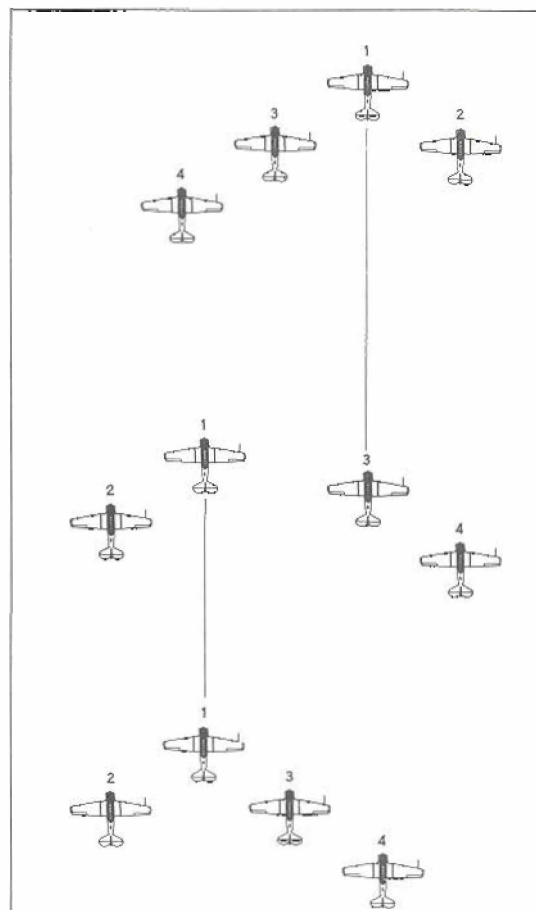

Figure 14: Changing the Section Leader
(1) In operational formation flying, the leader of a four-plane formation is always one of the element leaders. At FTS, however, to give everyone a chance to lead without having to break off the exercise, it is permissible for the wingmen to take turns. At the pre-flight briefing for an exercise in leader changing, each member must understand the procedure thoroughly, and must be fully aware of the system of renumbering.
(2) **SECTION LEADER CHANGE -** With the section in Finger formation, Number One indicates to Number Three that he should take the lead. Number Three, with Number Four forming on him, opens his throttle and moves slightly out and ahead of the first element, keeping his eyes on Number One until it is obvious that Number One is in position. An immediate power reduction is made to 1,750 rpm and 24" MP to allow the other members to close-up into Finger formation on the opposite side, as shown in Figure 14. As soon as the section has reformed, the new leader calls "Red Formation - Renumber, Renumber - Go!". Each member checks in in turn giving his new number as follows.